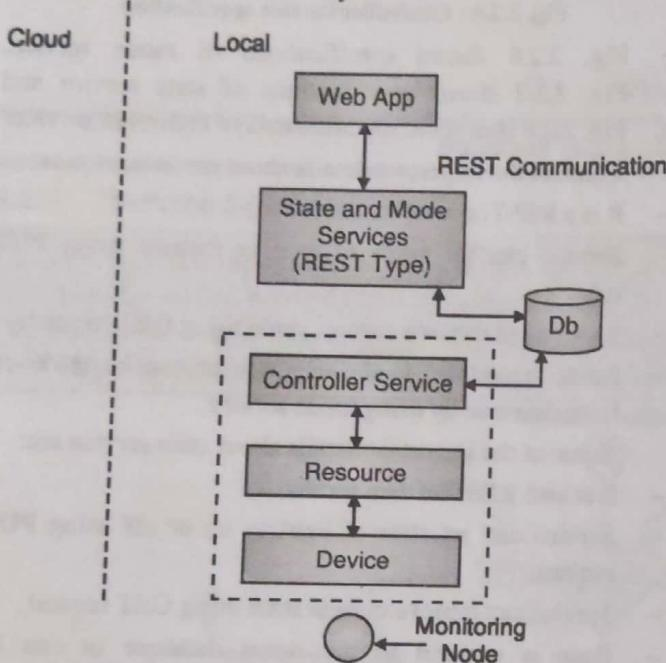

Fig. 2.2.9 : Deployment design of home automation system
As shown in Fig. 2.2.9 a single node is responsible for sensing, storage and data analysis.
- Fig. 2.2.9 shows deployment design for home automation system.